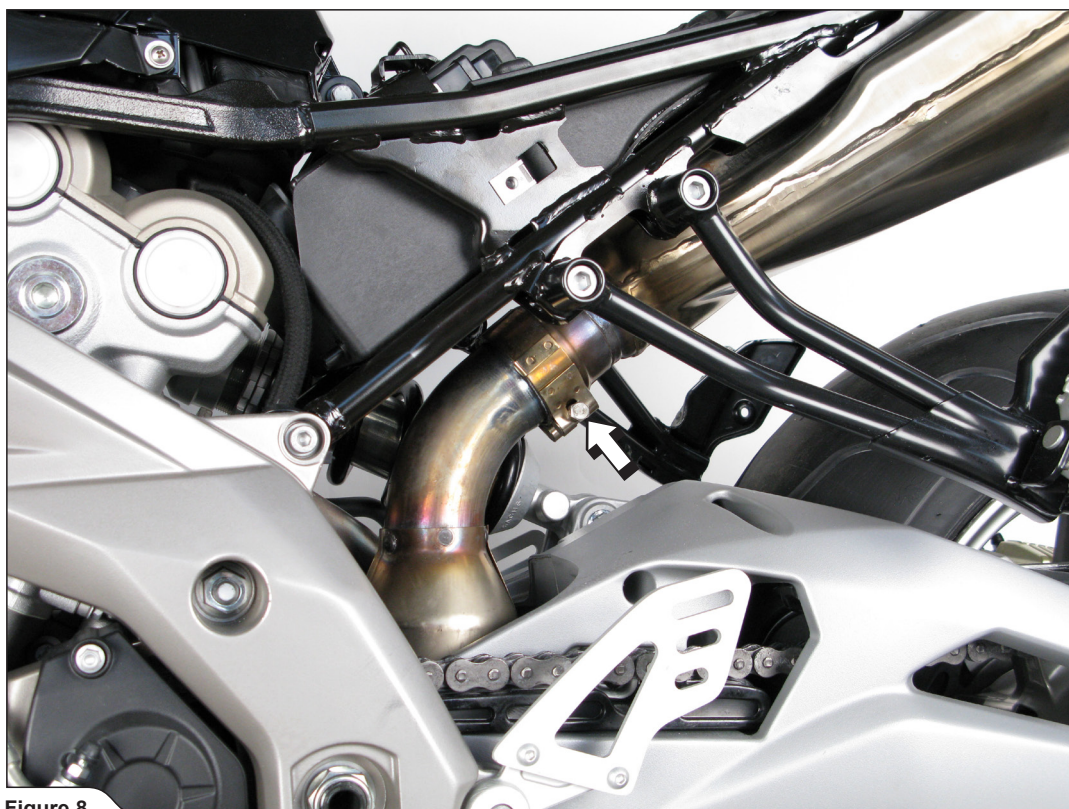

Figure 8
7. Untighten the bolt of the metal clamp at the muffler-link pipe joint and pull the stock muffler off the motorcycle (Figure 8, 9).